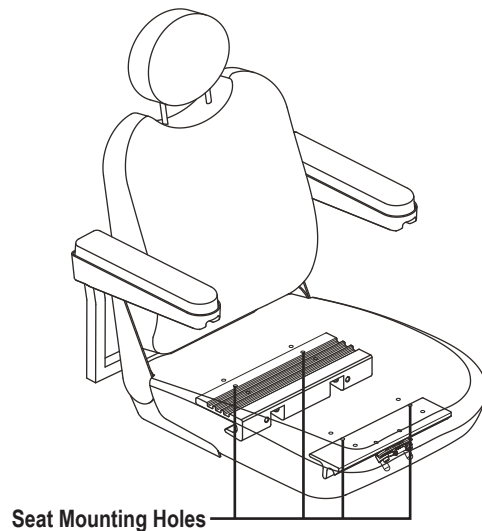

Figure 16. Seat Position Adjustment
6. Reposition the extrusions on a different set of mounting holes. You must move both extrusions the same number of holes either forward or backwards. **See figure 16.**